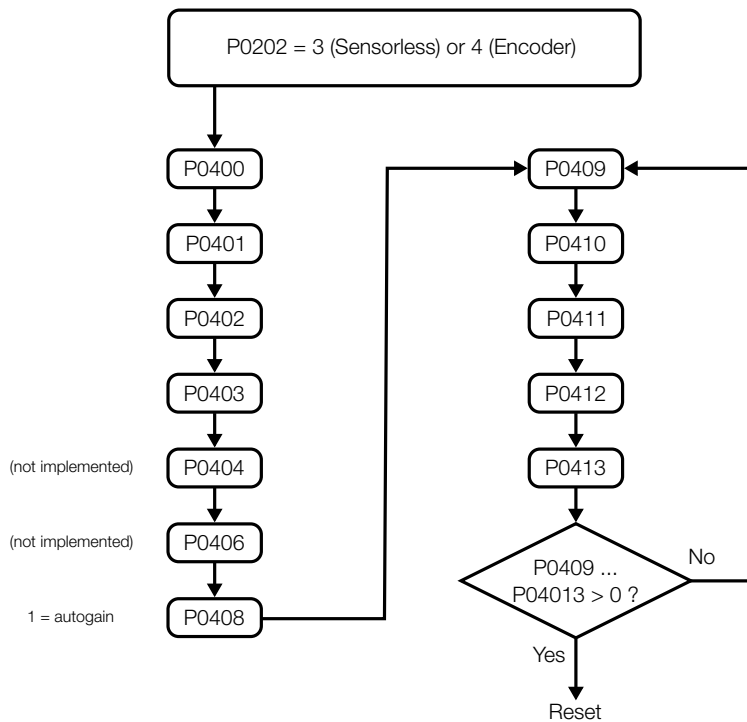

Figure 5.21: Guided start-up routine sequence
- When P0202 is programmed for sensorless vector (P0202 = 3) or vector with encoder (P0202 = 4), the inverter enters the guided start-up routine (refer to Figure 5.21 on page 5-30).